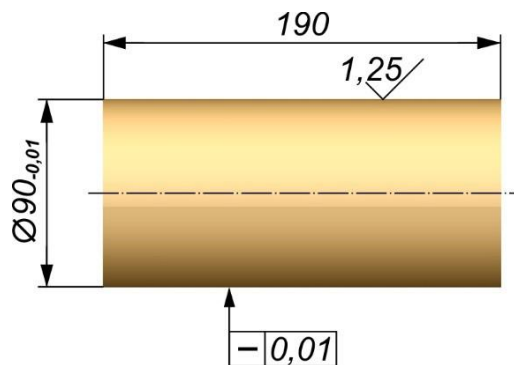

Fig. 3.83. Special-purpose mandrel #2
- install special mandrel #2 (Fig. 3.83) in the reduction gear case sockets for differential bearings, install and fasten differential bearing covers;